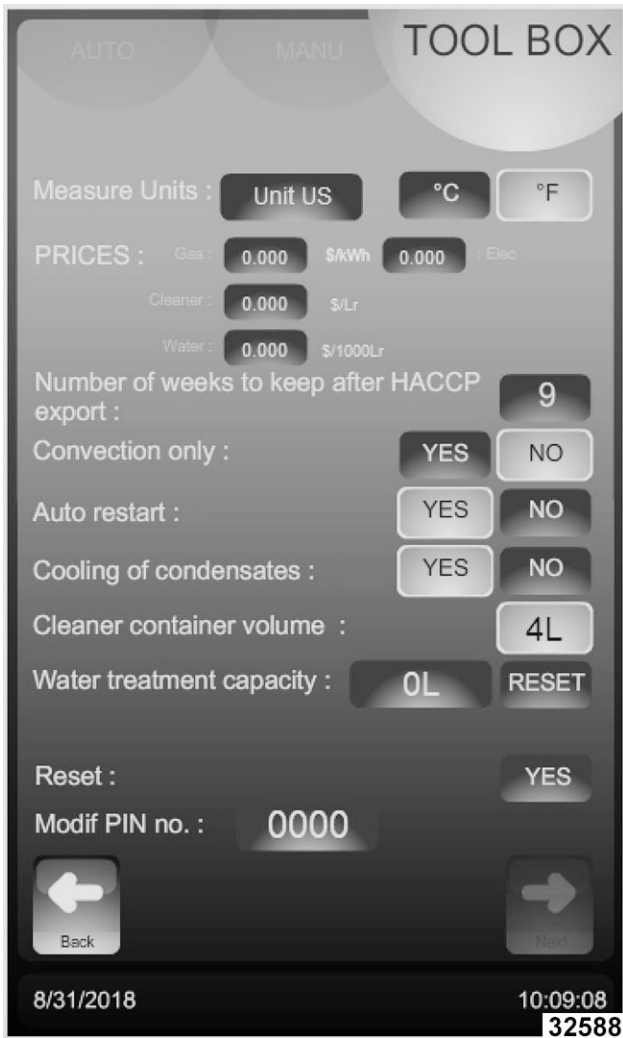

Fig. 89
6. Set / change screen 3 client parameters (Fig. 89) by either: